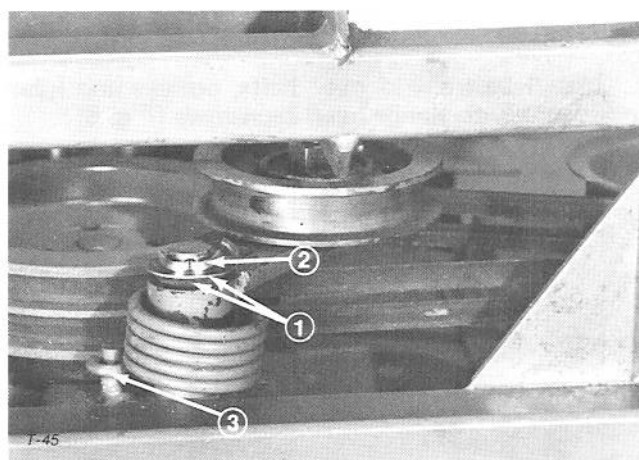

Figure 3
3. Install felt washer and flat washer over shaft insert and open cotter pin (Fig. 3). Make sure lower spring hook is around spring anchor (Fig. 3).